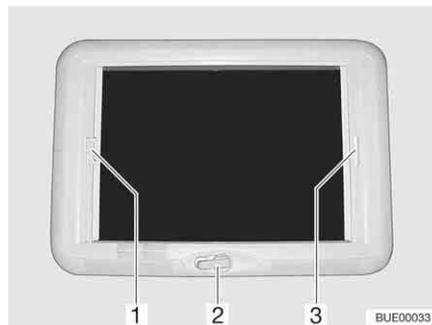

Fig. 132 Wind-up skylight
- Rotate the hand crank (Fig. 132,2) until a resistance can be felt.
Closing: ■ Pull the handle of the Roman shade (Fig. 132,3) and release in the desired position. The Roman shade will stay in that position.
Closing: ■ Pull insect screen at the handle (Fig. 132,1) to the opposite handle of the Roman shade (Fig. 132,3) and allow to engage.
Opening: ■ Press the handle of the insect screen (Fig. 132,1) at the back upwards and detach the insect screen from the Roman shade (Fig. 132,3).